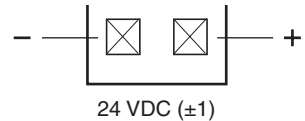

Figure 4: Power connector J1, pin view
2. Use a Molex 26-03-4020 shell and 08-58-0111 contacts to supply 24 volt current (3 amps recommended) to the connector marked J1. (see **Figure 4**). The motor can draw as much as 2.5 amps during the initial 50 milliseconds of movement, so make sure there is adequate power to prevent loss of power to other electronics.